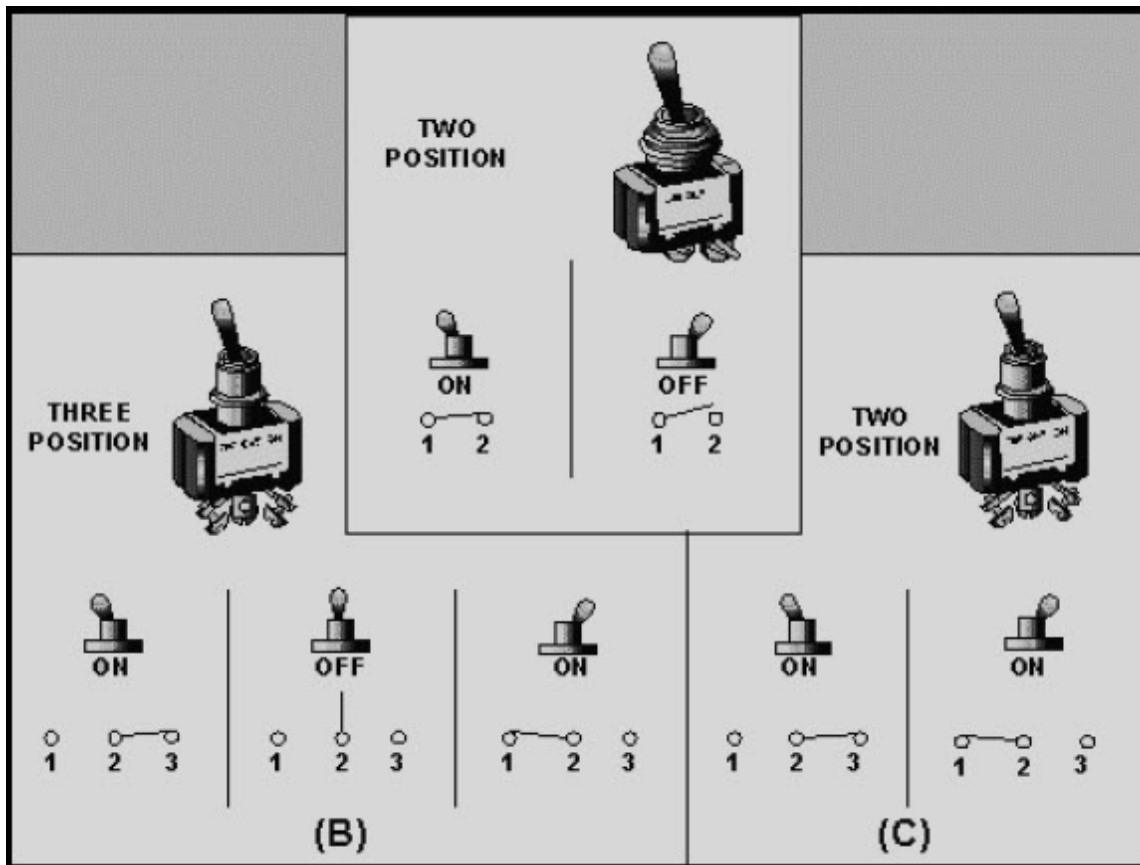

Figure 3-11 Two- and three-position switches
Switches are also classified by the number of positions of the actuating device. Figure 3-11 shows three toggle switches, the toggle positions, and schematic diagrams of the switch. Figure 3-11(A) is a single-pole, single-throw, two-position switch. The switch is marked to indicate the ON position (when the switch is closed) and the OFF position (when the switch is open). Figure 3-11(B) is a single-pole, double-throw, three-position switch. The switch markings show two ON positions and an OFF position. When this switch is OFF, no connection is made between any of the terminals. In either of the ON positions, the center terminal is connected to one of the outside terminals. (The outside terminals are not connected together in any position of the switch.) Figure 3-11(C) is a single-pole, double-throw, two-position switch. There is no OFF position. In either position of this switch, the center terminal is connected to one of the outside terminals.